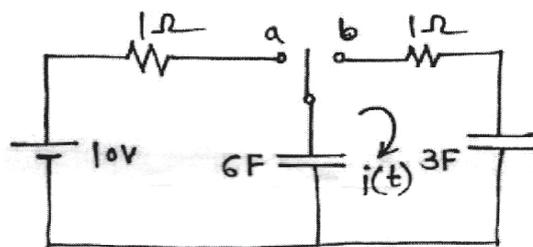

Fig. 7
b) In the network shown in Fig. 7, the switch is moved from position a to b at  $t = 0$ . Determine expression for  $i(t)$  using Laplace Transform approach. [6]